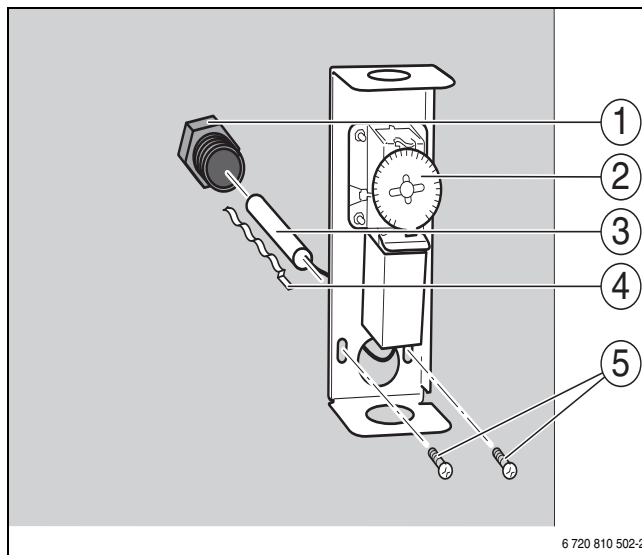

Fig. 14 Installing the aquastat
- ▶ Install the brass sleeve NPT 3/4" and sensor (→ Fig. 14 [1]) that come with the delivery onto the EZ connection.